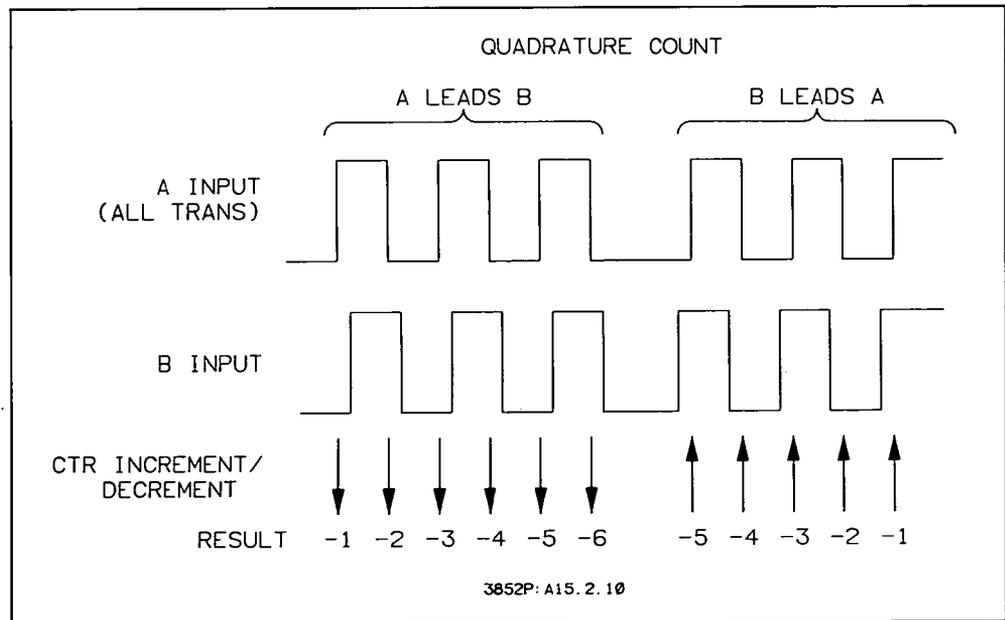

Figure 2-10. Example: Quadrature Count (CD)
Figure 2-10 shows an example of Quadrature Count in which the A and B signals are 90° out of phase. When A leads B, each A input edge (LH and HL transitions) is a down count. When B leads A, each A input edge is an up count. The result is twice the number of (up - down) counts which would be returned with the Count/Direction (CD) function.